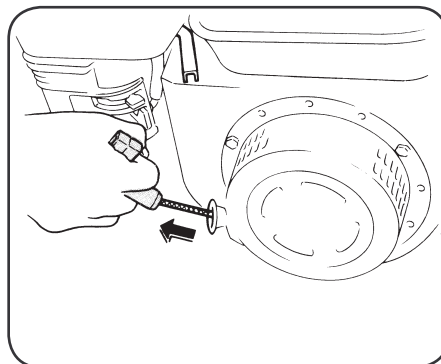

figure 9
- Pull the Starter Grip lightly until resistance is felt, then pull back briskly. (Fig. 9)